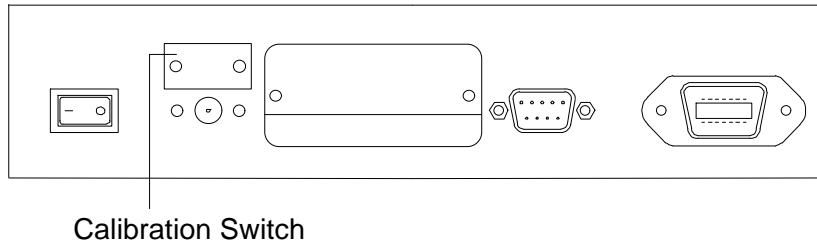

Figure 2-1: Location of Calibration Switch
1. Referring to Figure 2-1, locate the calibration switch on the back of the scale.